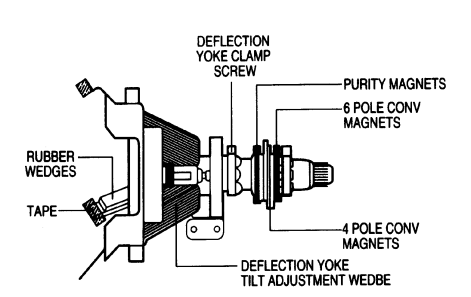

FIG. 5 PICTURE TUBE NECK COMPONENT
- 1. Check for correct location of all neck components (See figure. 5).
- 5. Loosen the deflection yoke tilt adjustment wedges (3), loosen the deflection yoke clamp screw and push the deflection yoke as close as possible to the CRT screen.